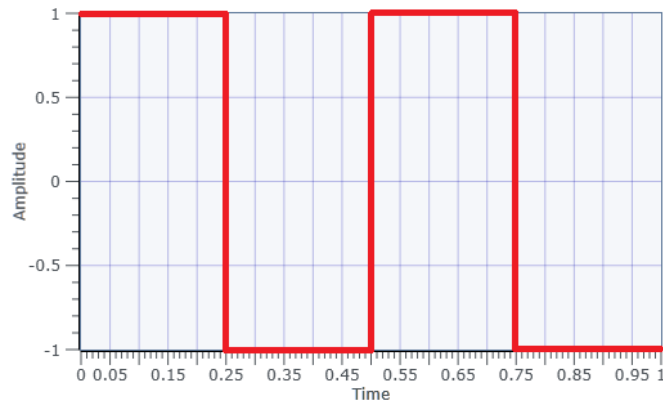
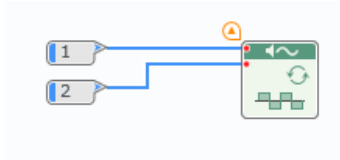
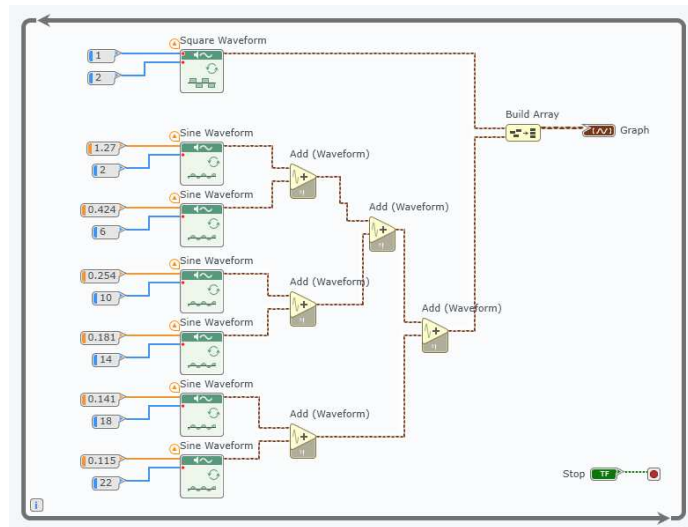

Figure 3.5: Square Wave
Figure 3.10: Setting the frequency and amplitude of the square wave generator
Figure 3.14: Fourier Synthesizer model for the periodic square wave
1. Write the Fourier Series of a square wave with odd symmetry and shown in Fig. 3.5
5. Use “numeric constant” block (find it from: Data Type/ Numeric/ Numeric Constant) to set the frequency and amplitude of the square wave as shown in Fig. 3.10. What are the desirable values for the frequency and amplitude in order to construct the square wave shown in Fig. 3.5 ?
HINT FOR THE INSTRUCTORS: Amplitude must set to be 1 and Frequency must set to be 2 as shown in Fig. 3.10
- Click on the panel tab. Insert a “Graph”. The “Graph” block in LabVIEW will be used to display both the input harmonics and the final output waveform. Again click on the diagram tab and update it (insert the “Graph” block into the diagram). Connect the “Graph” block to the output of the square wave generator. Run the Program. Make sure that your code generates the square wave shown in Fig. 3.5.
- Insert two new “wave generator” into diagram. This time, select “Sine” to construct a Fourier Synthesizer model for the periodic square wave of Fig. 3.5. Based on your calculations in step 1, set the magnitude and frequency for these two inputs of the synthesizer, i.e., set the parameters in the Sine blocks which are used to generate the input signals of the synthesizer. Before you add these inputs to the synthesizer, observe the signal on a new Graph. Make sure that the display is consistent with the parameters you set. Use “Add” block (find it from: Data Type/ Numeric/ Add) to add the outputs of two sine generators. In order to display two waveforms in one Graph use “Build Array” block. Your
8. Add second, third,..., and eleventh harmonics to the system, one at a time. To do this, you first need to insert “add” block, then insert another Sine Wave generator into the diagram(see Fig. 3.14). Of course you need to set the proper parameters for the Sine Wave, based on your previous calculation. Again, you need to observe the individual harmonics using the graph. Observe the change of the output waveform in the graph window when the higher order harmonics are added to the system. Compare your simulated result with the square wave shown in Fig. 3.5 by superimposing the two waveforms. Are they consistent?